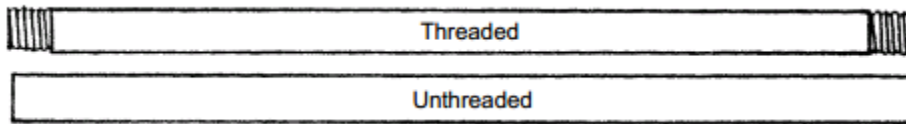

Figure 2.17 Threaded and unthreaded Iron pipe
The pipe consist three strength classifications: (1) standard, (2) extra strong, and (3) double extra strong. The Standards of pipe describe pipe strengths. Pipe diameter sizes (nominal pipe sizes) are $\frac{1}{8}$ inch to 12 inches, also referred as iron-pipe size. The pipe comes in 21-foot lengths, threaded or unthreaded (as shown in the Figure 2.17).